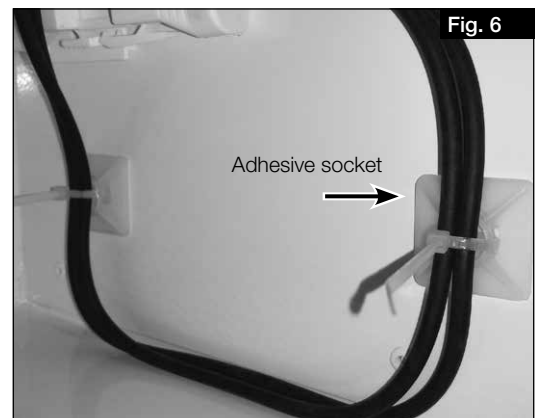

Fig. 6
7. Attach the electrical pre-heater connection cable to the side wall with the provided cable ties (see Fig. 6).